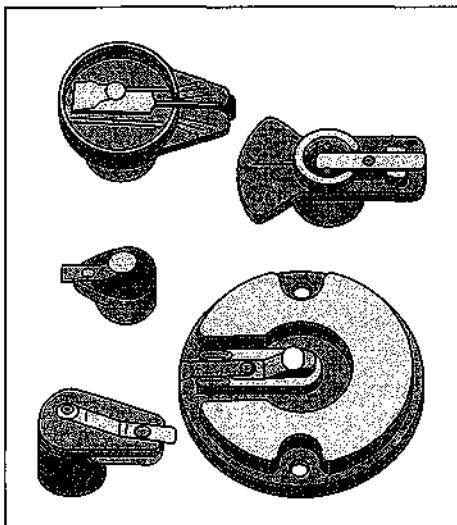

Figure 5-14:
-  The rotor (see Figure 5-14) sits atop the distributor shaft inside the distributor. As the distributor shaft turns, the rotor rotates with it and points toward the terminal at the base of each spark plug wire so that each plug can fire in the correct order. For example, when it's pointing at the terminal of the wire leading to your Number 1 spark plug, it directs the current to that spark plug at precisely the time when the fuel/air mixture in the Number 1 cylinder is waiting to be exploded.